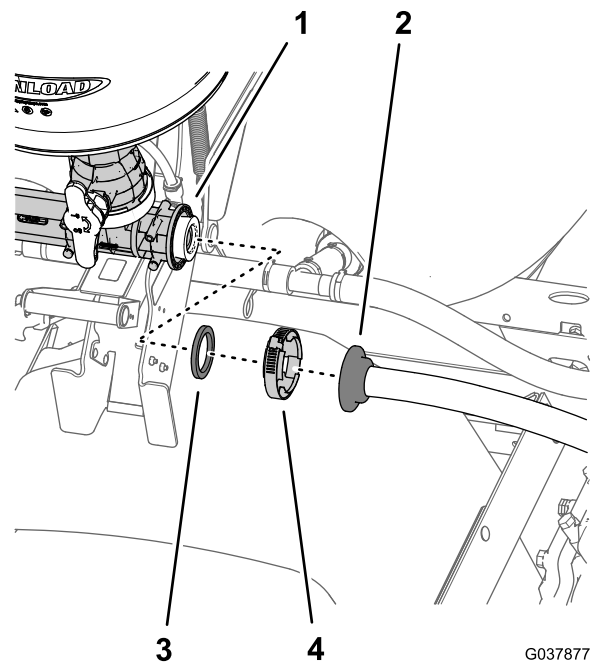

Figure 41
1. Remove the flange clamp that secures the straight barbed fitting of the eductor supply hose to the inlet flange of the eductor (Figure 41).
2. Separate the straight barbed fitting from the eductor and remove the gasket (Figure 41).